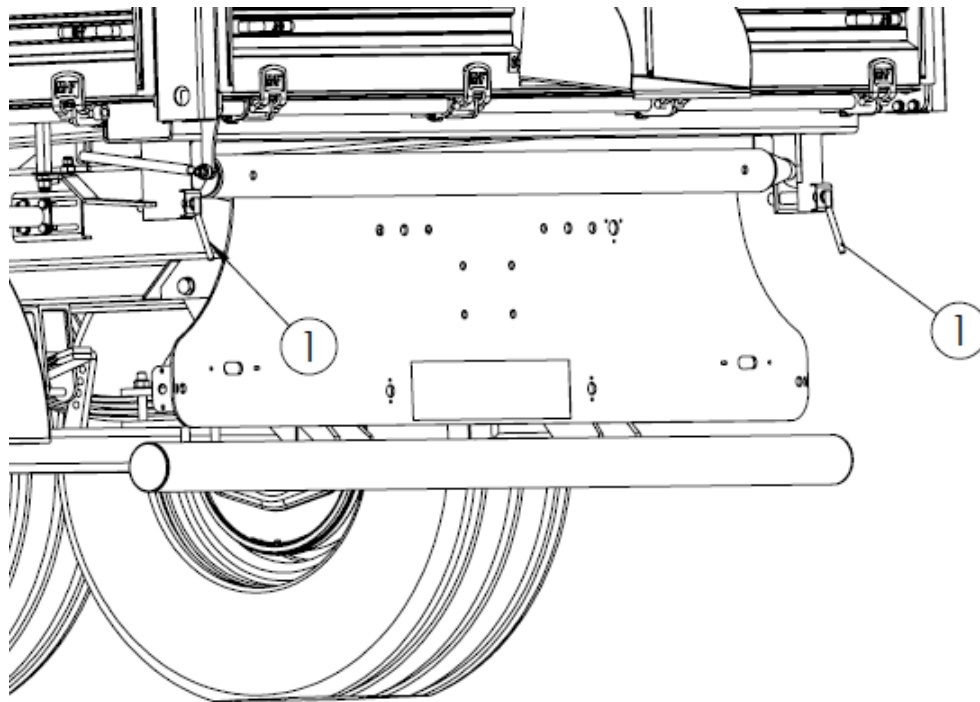

Figure 8. Tipping safety pins
- remove the pin connecting the load-carrying body to the chassis frame from the opening (Figure 8)
- when unloading to the rear – the pins (fig.8) must remain in the rear cups of the body